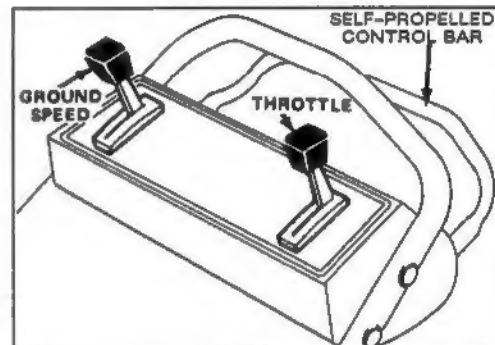

Figure 6
1. **CONTROLS**—Throttle, ground speed control, and blade/self-propelled control bar are on upper handle (Fig. 6). Recoil starter is on top of engine.
3. Move ground speed control to "N" (Fig. 6).
7. STOPPING (Fig. 6)—Release control bar to stop blade and traction drive. Move ground speed control to "N". To stop engine, move throttle to OFF. Pull wire off spark plug if mower will be unattended or not used.